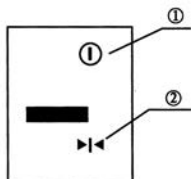

Figure 6
- When the detector displays like Fig 6, it is level with the rotating laser beam.